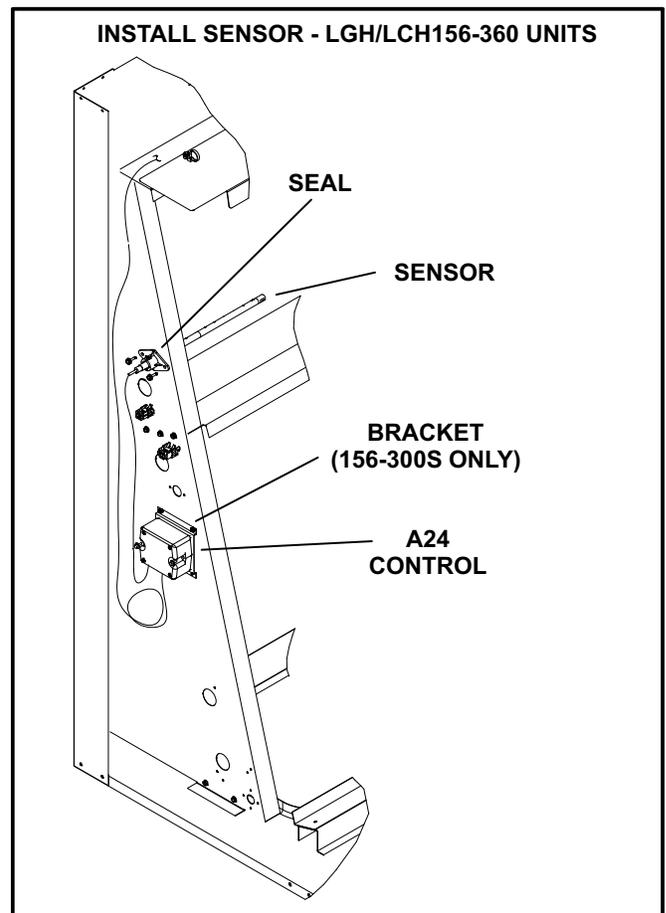

FIGURE 9
- Figure 9 for 156-360 units
- 2- Make sure the A24 jumper is installed in the low range position as shown in figure 9.